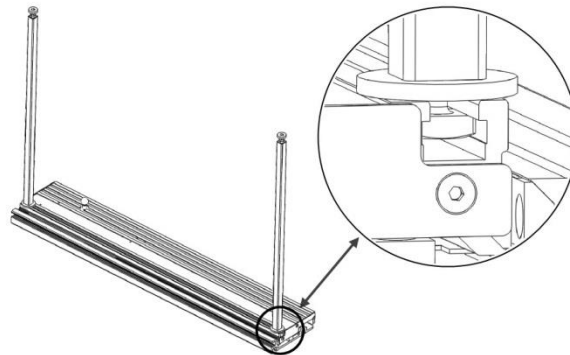

Fig. 4
1. Turn the sliding table assembly upside down, slide the support leg T-bolts (109) into the sliding table T-slot (see **Fig. 4**), then hand-tighten the legs clockwise to secure them in place.
Note: For the best support, position the legs near the edges of the sliding table, as shown in Fig. 4.